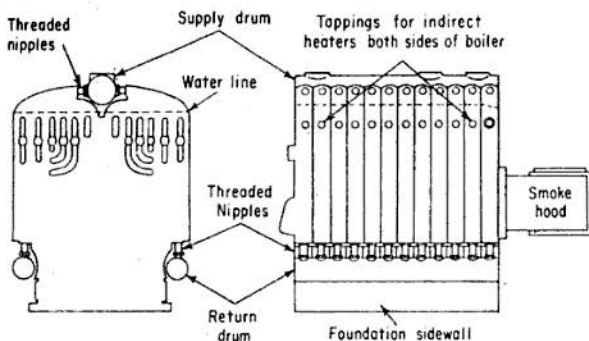

Fig. 5-5. Header-drum and screwed-nipple construction.
2. External header type (Fig. 5-5) where the sections are individually assembled to headers (supply drum and return drums) by means of threaded nipples, locknuts, and gaskets. This type assembly allows replacing an intermediate section, because only the locknuts, gaskets, and threaded nipple have to be removed on each header to slide a section out. In contrast, with through tie-rod construction, all the sections in front of the intermediate section to be replaced have to be removed first to get at the affected section.